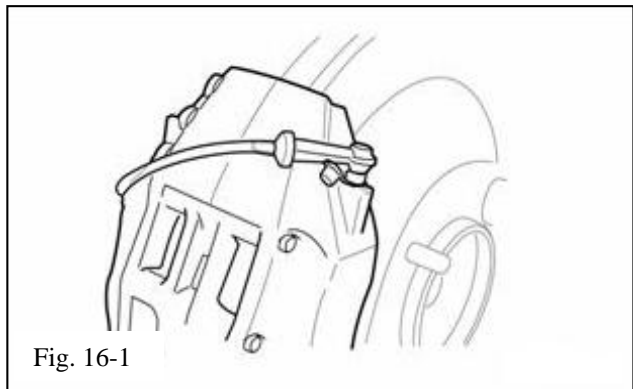

Fig. 16-1
- Attach one of the four bleeder vacuum tubes to the outside bleeder screw on the Passenger side rear caliper as shown in (Fig. 16-1). Leave the remaining three vacuum tubes open and unused in the bleeder machine.